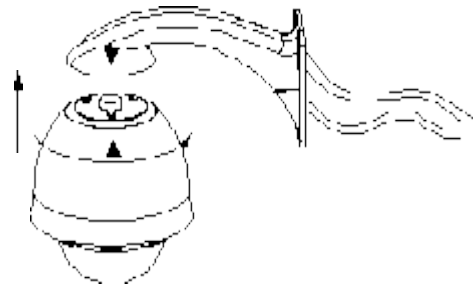

Figure 10
iii. Push the dome (B) up and turning it anticlockwise as Figure 10.